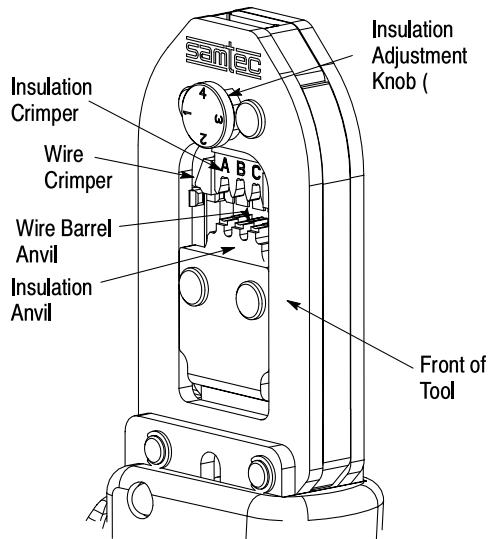

Figure 1
insulation barrel during the crimping operation. The locator/insulation stop positions the contact, and limits the insertion distance of the stripped wire into the contact. In use, the locator/insulation stop rests in the locator slot of the contact (See Figures 1 and 2). The ratchet assures full crimping of the contact. Once engaged, the ratchet will not release until the dies have been fully closed.
4. Position the contact between the crimpers so that the locator/insulation stop enters the slot in the contact. The wire barrel should butt against the locator/insulation stop. Refer to Figure 1.
5. Check the clearance between the bottoming surfaces of the wire crimper and the wire anvil. See Figure 1. If the clearance is 0.025 mm [.001 in.] or less (on at least two of the bottoming surfaces), the ratchet is satisfactory. If clearance exceeds 0.025 mm [.001 in.], the ratchet is out of adjustment and must be repaired.